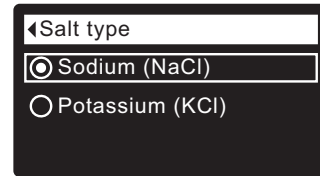

FIG. 39
5. Press the SELECT (O) button to display the Salt type menu (See Figure 39).
6. If the desired salt type already has a black dot next to it (See Figure 39), go to Step 7. Otherwise, press the conditioner’s DOWN (▼) or UP (▲) buttons to scroll to the other salt type, then press SELECT (O) to choose it.
7. Press the SELECT (O) button. The display will go back to the Salt settings menu.